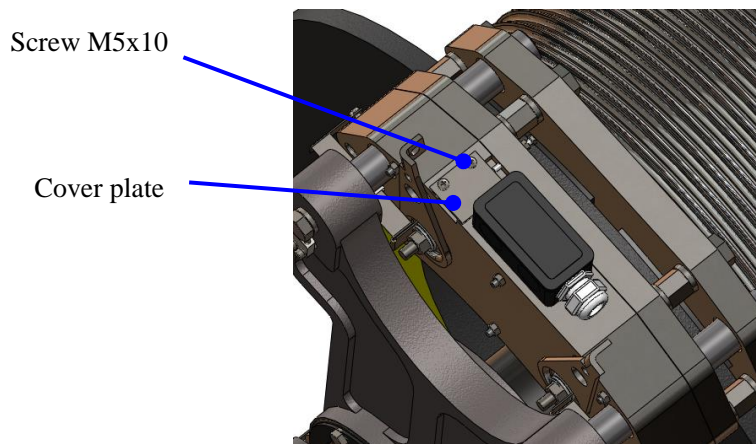

Figure 45: Cover plate removal
1. Loosen the screw M5x10 using the Phillips head screw driver, then remove the cover plate. See Figure 45.